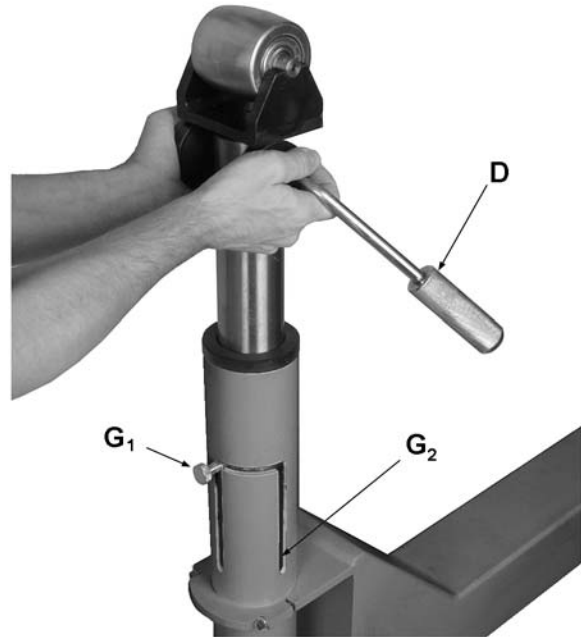

Figure 6-3
1. Release cam lever (D, Figure 6-3).